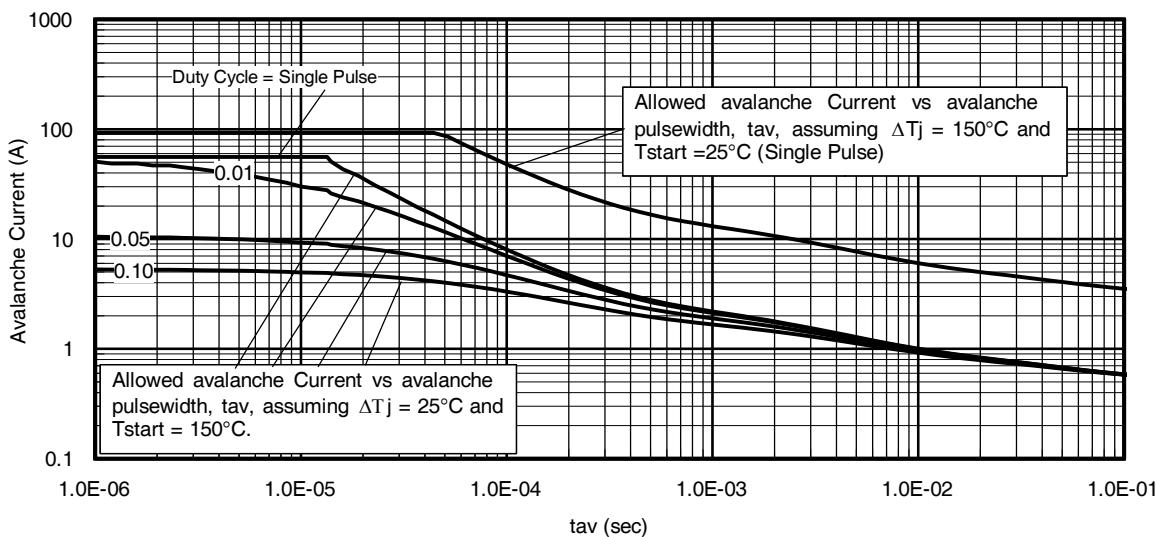

Fig 14. Typical Avalanche Current vs. Pulse
Notes on Repetitive Avalanche Curves , Figures 14, 15: (For further info, see AN-1005 at www.irf.com)
7. ΔT =Allowable rise in junction temperature, not to exceed $T_{j,\max}$ (assumed as 25°C in Figure 14, 15).